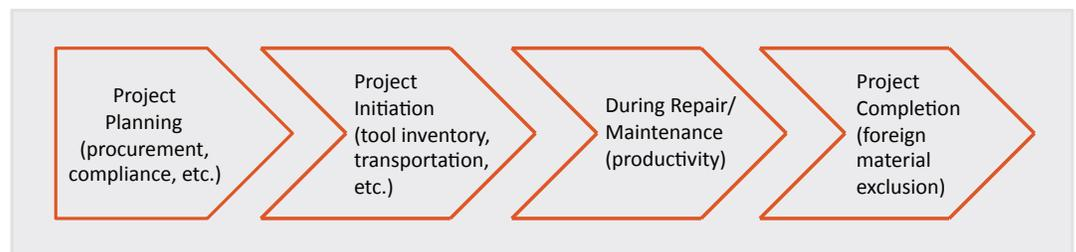

Figure 1. Tool Systems for Turbine Maintenance and Repair Affect All Project Phases
- The end of the outage (see Figure 1).